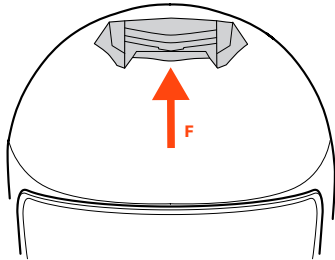

FIGURE 5
- Figure 5: air intake closed.